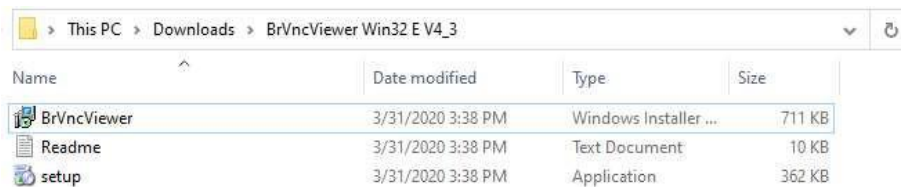

Figure 12: Unzipped/Extracted folder
- b) Click on the BrVncViewer in the unzipped folder (Windows Installer File Type) (Fig: 12) and install the application on the local windows machine.